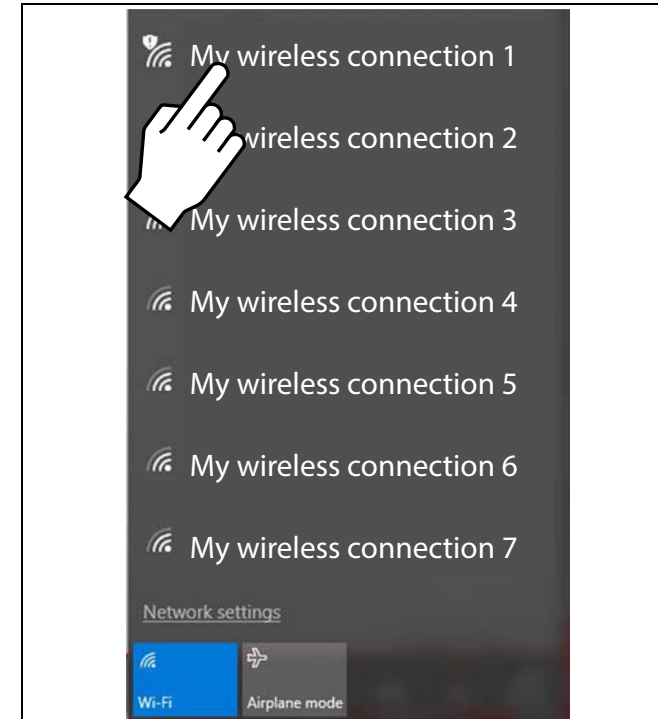

Figure 1-21
3. Choose your **Wireless Printer** from the list of available networks, then select **Connect** (Figure 1-21).